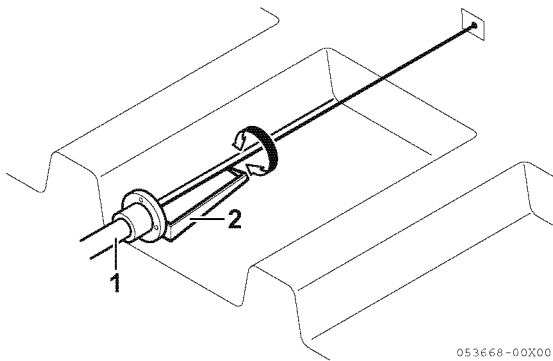

Figure 5-24
1. Attach the alignment device (2, **Figure 5-24**) to the propeller shaft flange (1, **Figure 5-24**) and prepare a centering line as shown.